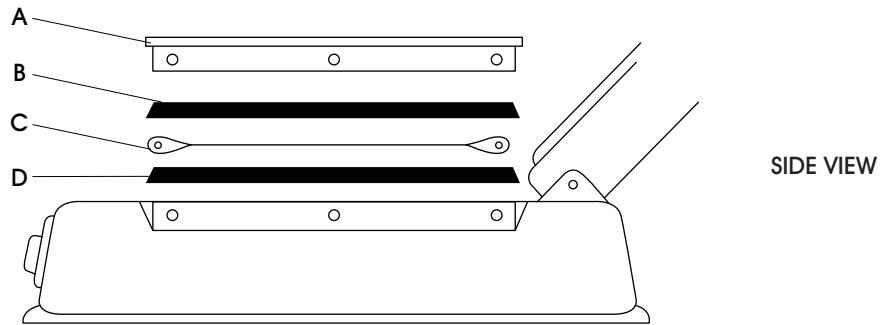

Figure 1
1. Remove screws along with the cover plates (A) and top teflon cover (B). Remove element (C) from terminal posts. (See Figure 1)
2. If bottom adhesive teflon tape (D) is worn, burned or ripped, it needs to be changed. Teflon tape keeps the element insulated from the sealer housing to ensure proper sealer operation. (See Figure 1) If this tape is not worn, go to step 5.